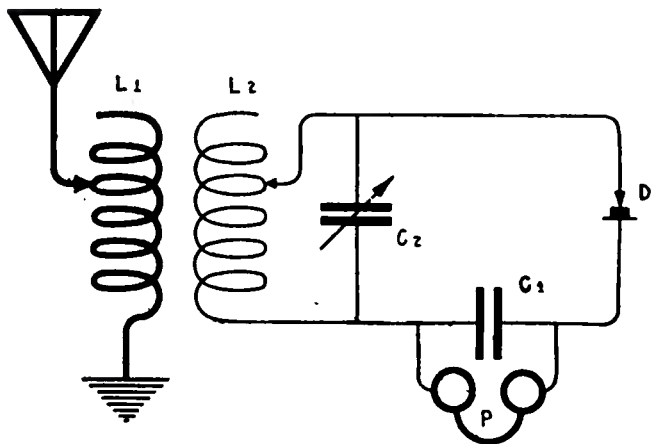

Figure 123
- (2) Figure 123. To show the circuits of an inductively coupled receiver.
In figure 123, the primary winding of the receiving transformer is indicated at L-1, the secondary winding at L-2, the shunt variable condenser at C-2, the crystal rectifier at D, the head telephone at P, and the shunt condenser at C-1. Coils L-1 and L-2 are in variable inductive relation.
The apparatus shown in figure 123 functions as follows: The radio frequency current flowing through the coil L-1 induces a current of similar frequency in coil L-2, resonance being established by the shunt condenser C-2. Thus the oscillations in the complete receiving system attain their maximum amplitude. The discharge of the condenser C-2 through the circuit D, P, C-1 being oscillatory is rectified by D and a charge for each group of oscillations accumulates in the condenser C-1. C-1 then discharges through the head telephone P in one direction. Resonance may be established between the primary and secondary circuits without the use of the shunt variable condenser C-2, the necessary capacity being found in the distributed capacity between the turns of the secondary coil. A circuit of this kind gives more favorable results with oscillation detectors which depend for their action upon the value of the voltage impressed, than a circuit in which a shunt variable condenser of considerable capacity is employed.